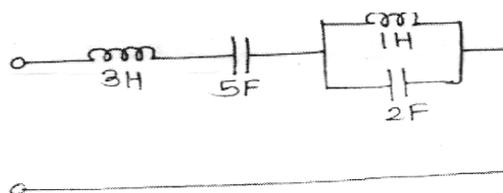

Fig. 12
- b) Determine Driving Point Impedance function  $Z_{11}(s)$  and Driving Point Admittance function  $Y_{11}(s)$  for the network in Fig. 12. [6]